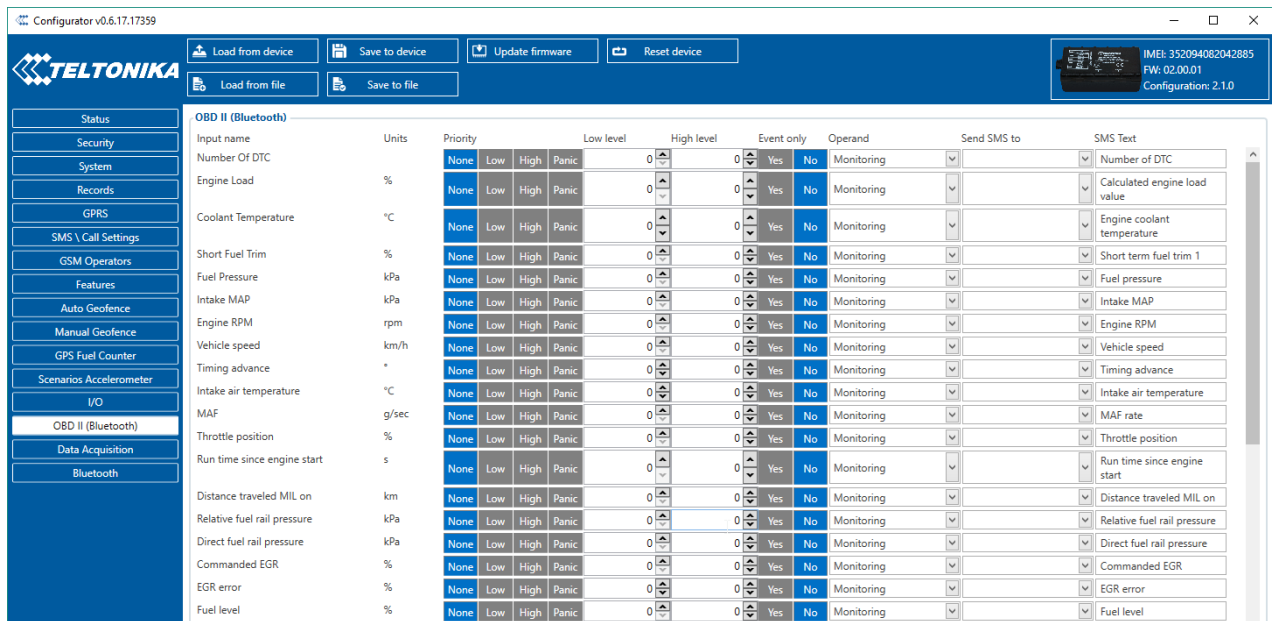

Figure 38 OBD II Bluetooth settings.
9. Go to „**OBD II (Bluetooth)**“ in left menu and select priority and others parameters visible at **Figure 38**.